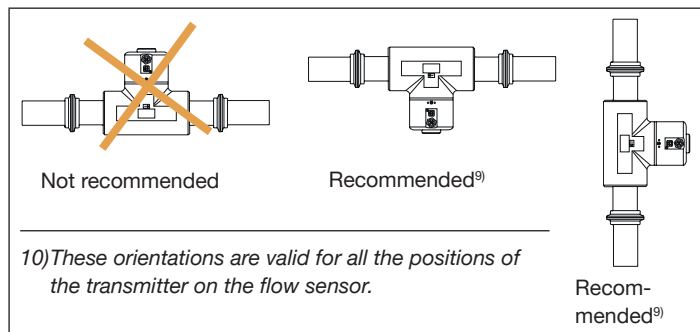

Fig. 11: Orientation of a device to avoid effects of high liquid temperatures
- To make sure the internal temperature of the transmitter does not exceed the authorized maximum value, install the device as recommended in “Fig. 11”.